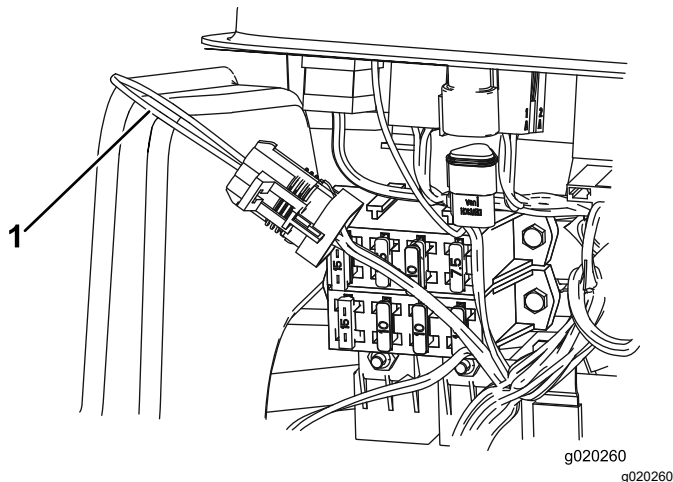

Figure 36
3. Locate the wire harness and loop-back connector (Figure 36).